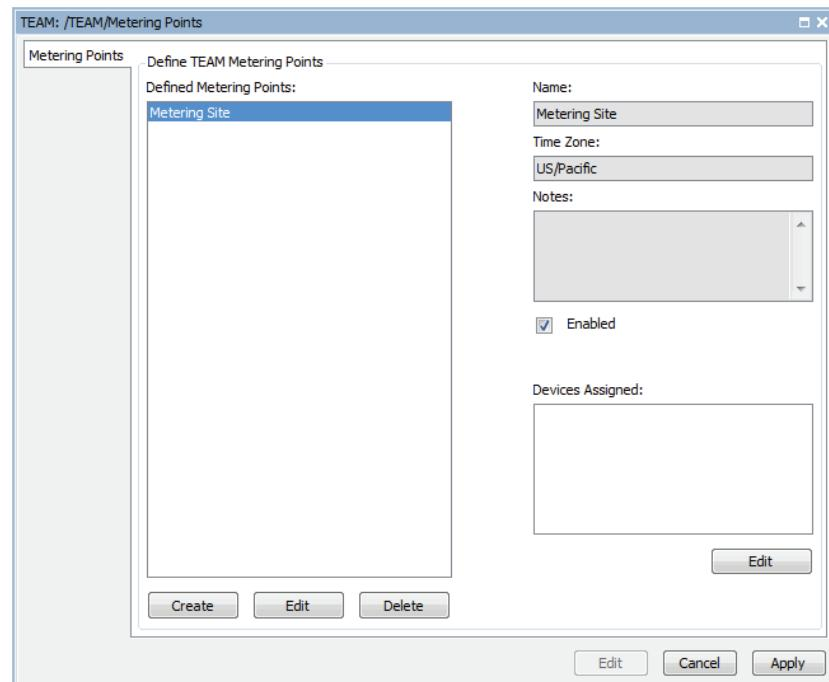

Figure 184 Devices Assigned Window
- Step 9. Select the **Edit** button, outlined in *Figure 184*, under the **Devices Assigned** section to open the **Metering Point Device Assignment** window.